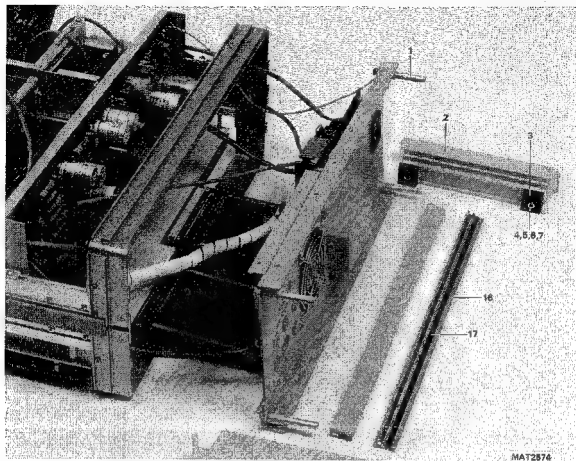

Figure 15.2 Mechanical parts rear side.
15.1.2 Mechanical + electrical parts rear side (figure 15.2 and 15.3)